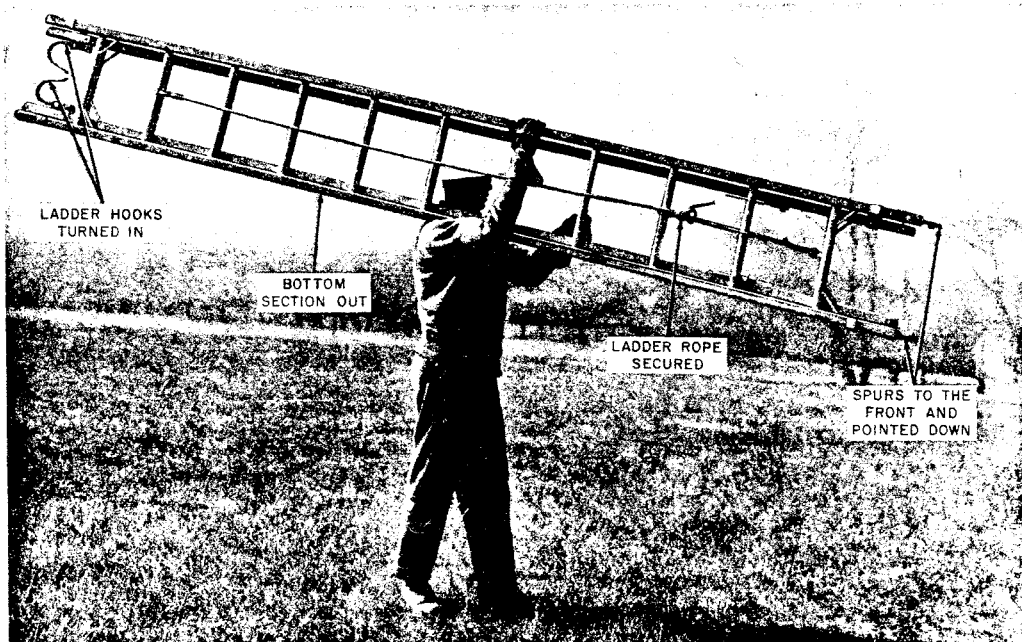

Fig. 28—One-Person Method of Carrying an Extension Ladder
7.06 Carry extension ladders as shown in Fig. 28 or 29.